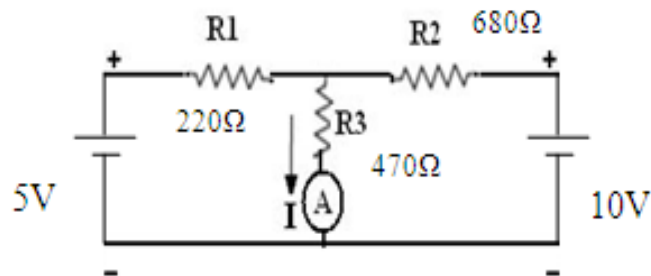

Fig 1.
1. Connect the circuit as shown in fig.1.
2. Adjust the voltage of the source (1) to 5V and that of source (2) to 10V. Note the current (I) read by the ammeter.
3. Disconnect source (2) and short the terminals as in fig(2) with source Voltage (1) at 5V read the ammeter current ( $I_1$ ).
4. Disconnect source and short the terminals as in fig(3). With source (2) voltage at 10V read the ammeter current ( $I_2$ ).